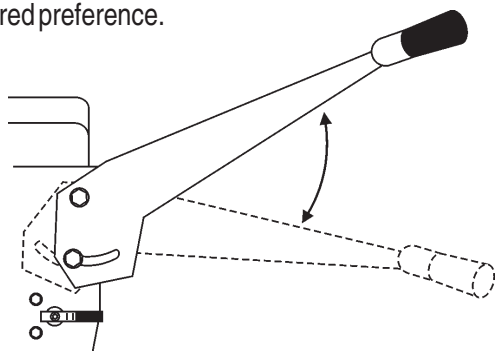

Figure 20. Handle Bar Height Adjustment
2. Move the handle bars (Figure 20) up or down to operators desired preference.